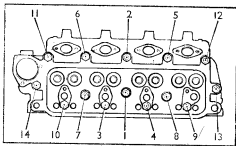

Fig.10 - Cylinder head nut slackening and tightening sequence
4. Slacken the cylinder head nuts, a turn at a time, in the sequence shown in Fig. 10 until the load has been released. It will be found more convenient to use the Cylinder head nut spanner 18G694 with Torque wrench 18G372 to turn the three nuts located below the rocker shaft, numbers 1, 7 and 8 on the diagram.